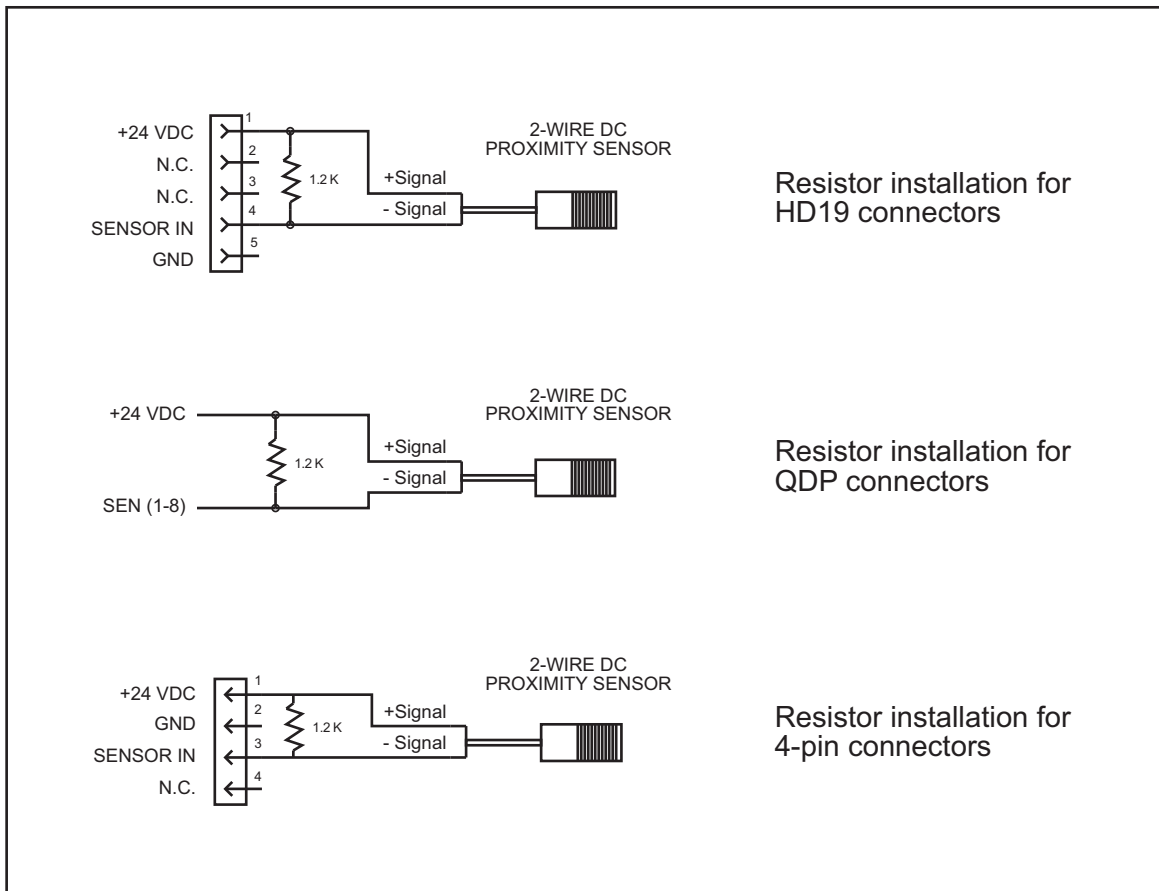

Figure 3-14. Two-wire DC Proximity Sensor Wiring Showing Installation of a Resistor
1. Making sure that the DSI 2 is powered down, connect the two-wire sensor to the DSI 2, using a 1.2 K Ω resistor (1/4 watt), as shown in Figure 3-14, page 3-16 and in the appropriate wiring diagram at the back of the manual.